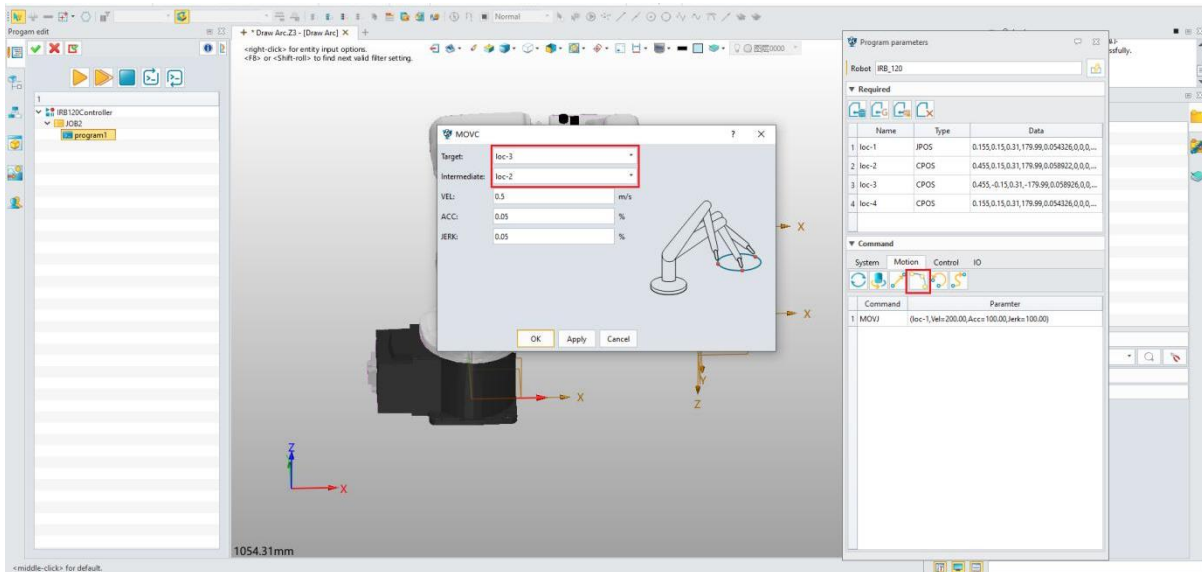

Figure 9-14: MOVA
- Add MOVA Command: Then add the MOVA instruction, with parameter settings as shown in the figure. The target point is "loc-3", the middle point is "loc-2", and other parameters remain default. Click OK. (Figure 9-14)